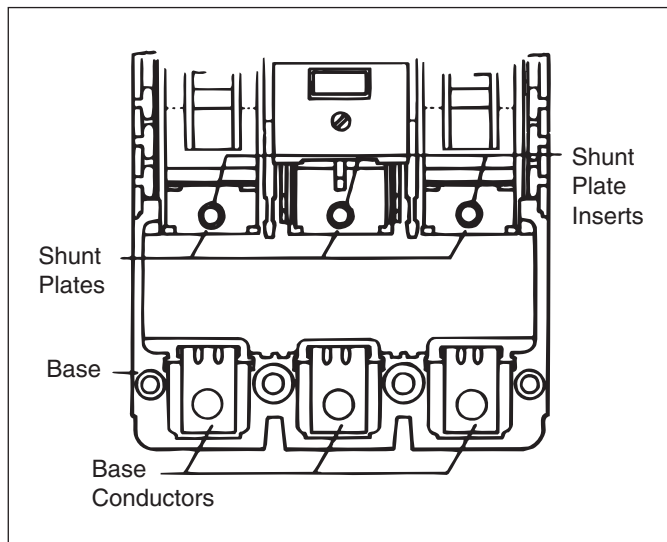

Figure 3 Base Conductors in Position and Shunt Plates Centered Over Base Inserts.
Make sure circuit breaker base conductors are positioned in slots in base (see Figure 3).
Remove screws from shunt plate inserts (see Figure 3).
**Make sure shunt plates are centered over shunt plate inserts (see Figure 3).**